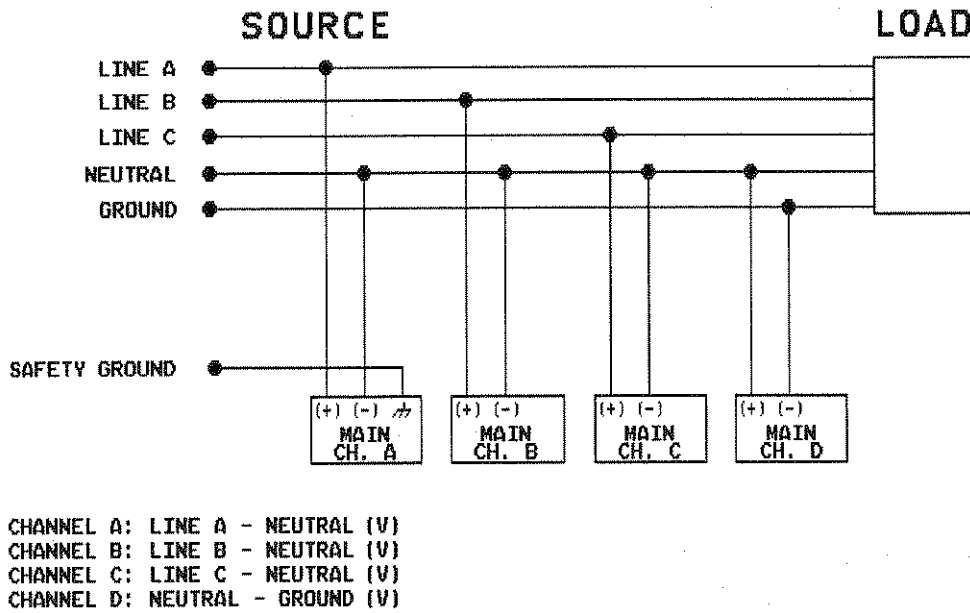

FIGURE 2-8. THREE PHASE (3 $\phi$ ) "WYE" CONNECTIONS
- The 656 can monitor Line A-to-Neutral, Line B-to-Neutral, Line C-to-Neutral, and Neutral-to-Ground voltages in a 3 $\phi$  "wye" system (see Figure 2-8). This application would use all four Main channels. With the 656A, you could also monitor 3 $\phi$  current on channels B, C, and D while using channel A as the synchronization channel (illustrated in Figure 2-9).